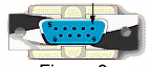

Figure 8
- Step 2** Route the female connector (DB9F – see Figure 8) to the driver compartment and connect to the serial port located on the rear of the mobile computer.